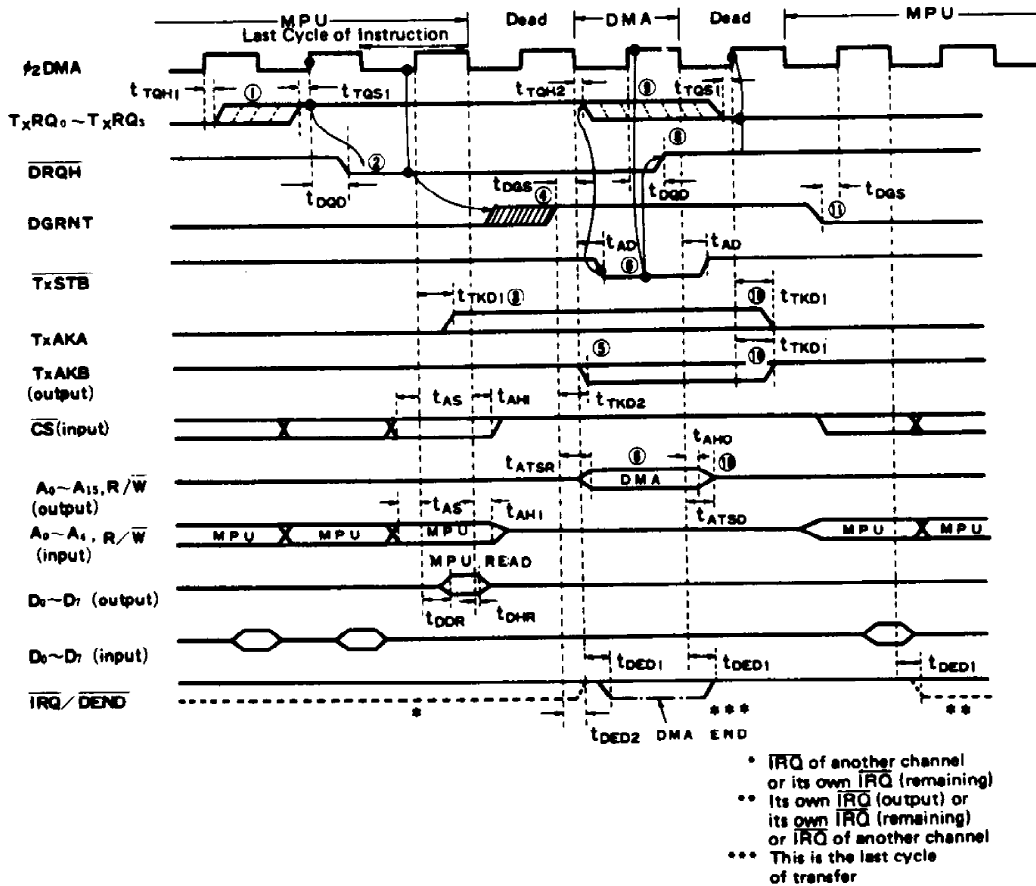
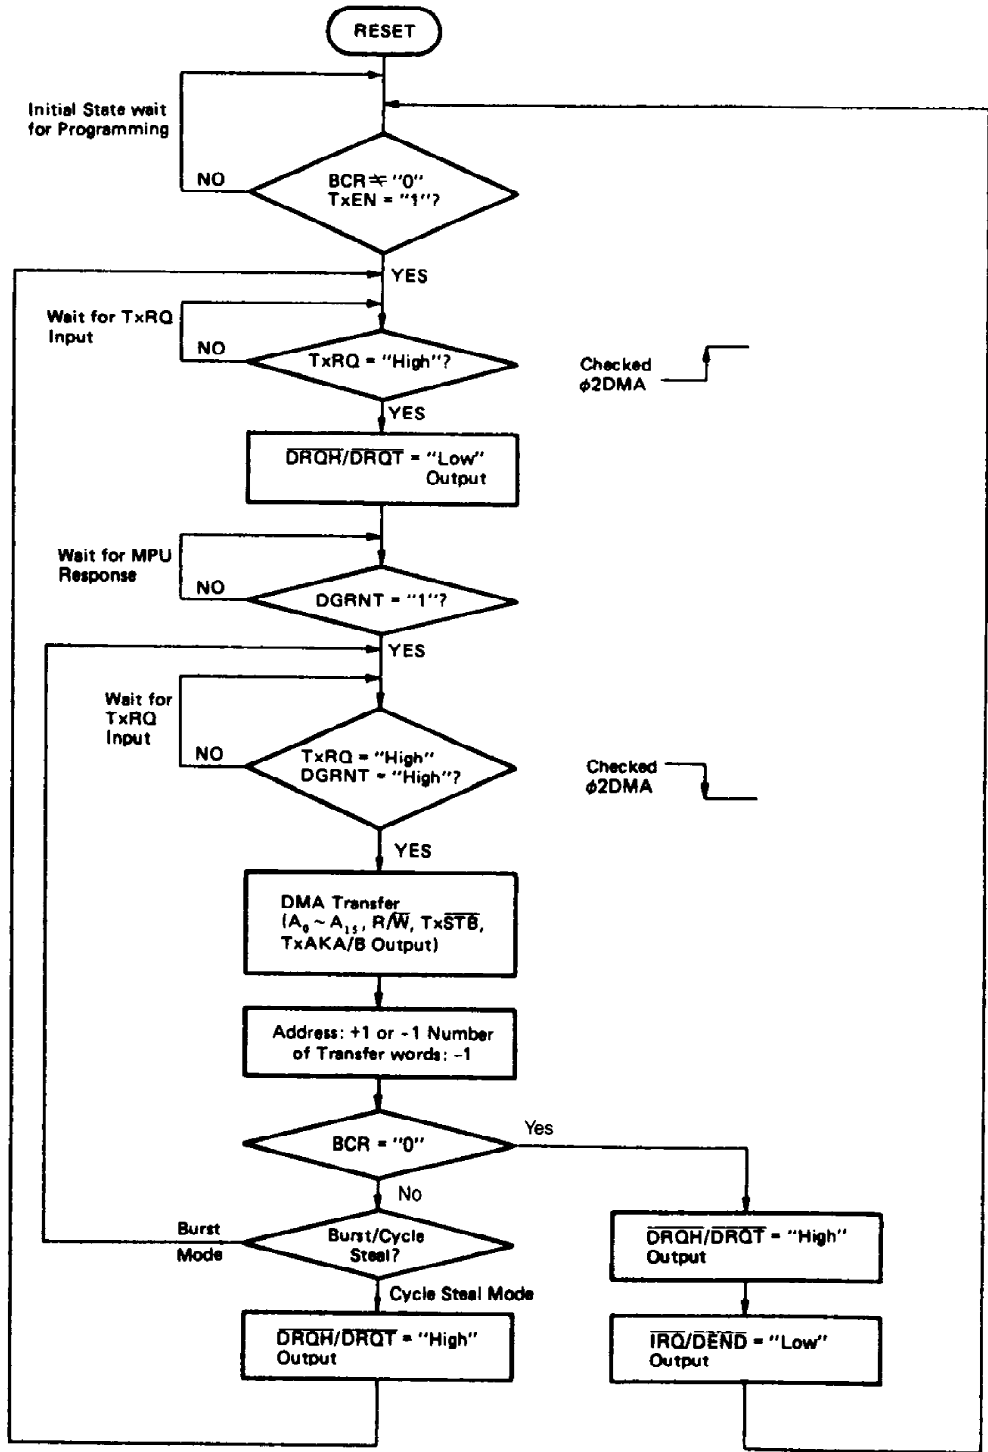
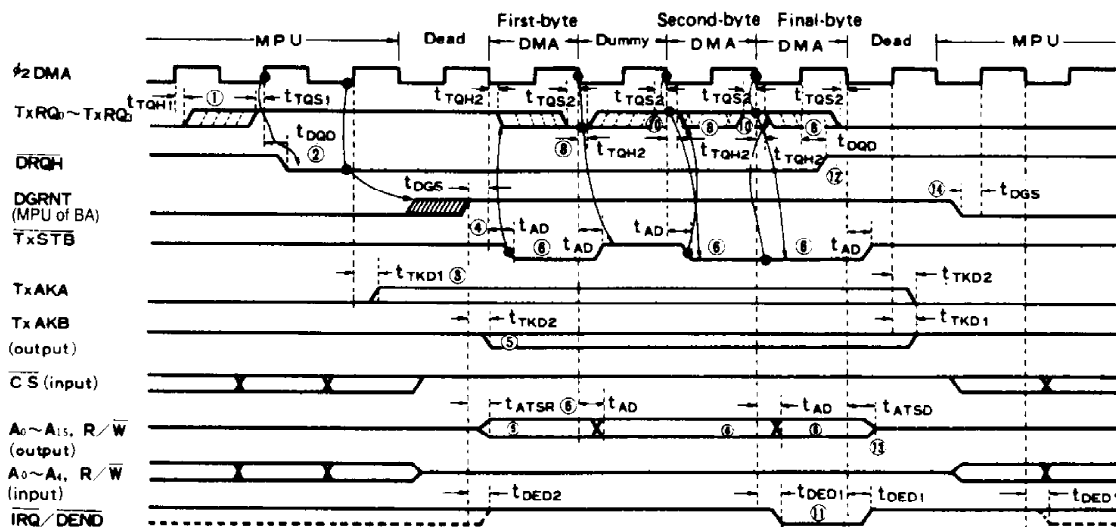
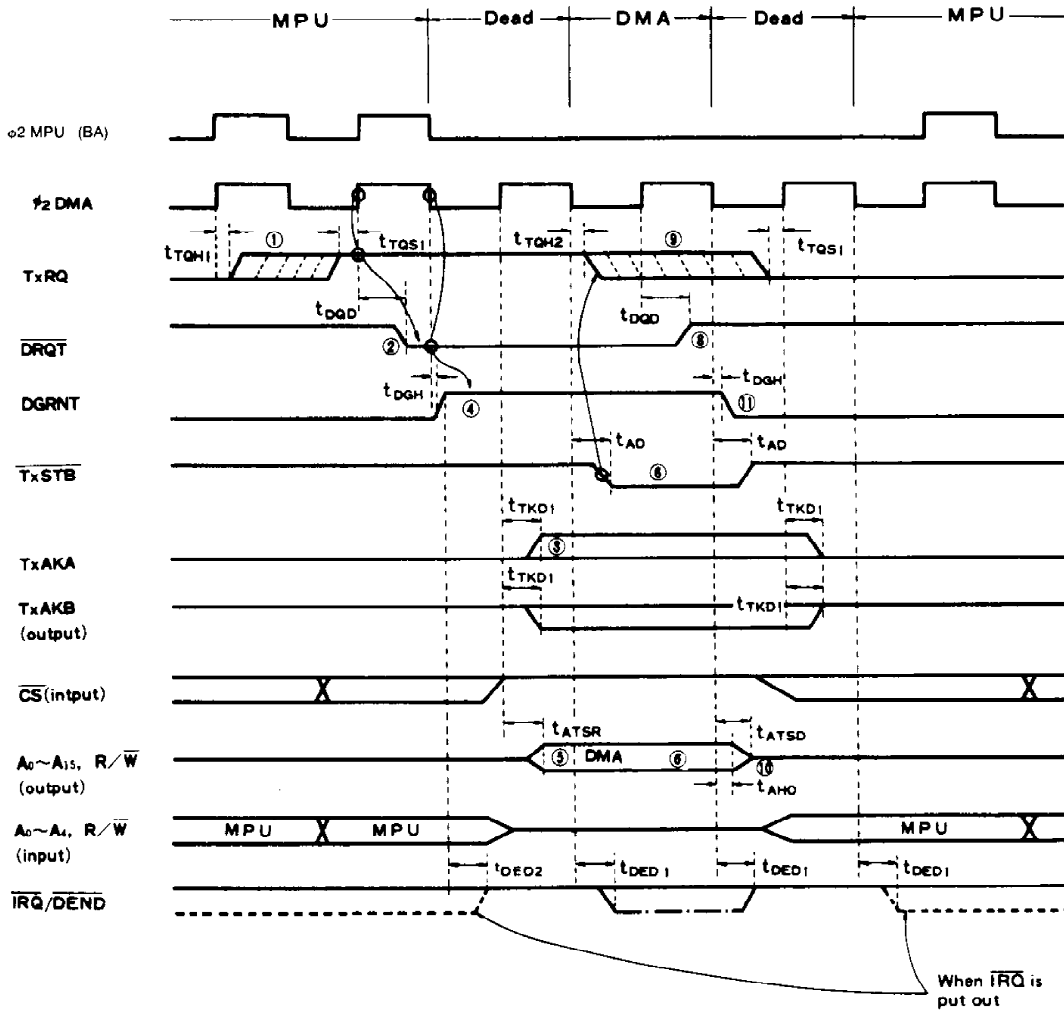

Figure 12 HALT Cycle Steal Mode
Figure 13 Flow Chart of DMAC Operation
Figure 16 HALT Burst Mode
Figure 17 TSC Cycle Steal Mode
Timing chart is shown in Fig. 12 and flow chart is shown in Fig. 13. Procedure of transfer operation is the following. (No. ① ~ ⑭ in Fig. 12 correspond to the following items.)
- ① TxRQ₀~TxRQ₃ input is checked at the rising edge of ϕ_2 DMA. When it is at "High" level, it gets into the following operation.
- ② DRQH="Low" is output and MPU is requested to stop its operation.
- ③ TxAKA is driven (Level output).
- ④ MPU stops its operation and DMAC waits until DGRNT goes to "High" level.
- ⑤ When DGRNT goes to "High" level, DMAC drives TxAKB, A₀~A₁₅ and R/W lines.
- ⑥ TxSTB is given to perform DMA transfer.
- ⑦ Address is incremented or decremented by one and number of transfer words is decremented by one.
- ⑧ When DRQH rises to "High" level, MPU gets into Instruction Cycle again.
- ⑨ TxRQ falls to "Low" level.
- ⑩ A₀~A₁₅ and R/W get into high impedance state again.
[Note] TxRQ₀~TxRQ₃ input in HALT cycle steal is, in principle as shown in Fig. 12, set to "High" every 1-byte transfer on account of I/O request. When TxSTB of the DMAC is driven, it is reset to "Low". Take care not to be against this principle, or the following states may happen.
Its timing chart and flow chart are shown in Fig. 16 and Fig. 13 respectively. Procedure of transfer is the following (No. ① ~ ⑭ in Fig. 16 correspond to the following items).
- ① TxRQ input is checked at the rising edge of ϕ_2 DMA. When it is at "High" level, it gets into the following operation.
- ② \overline{DRQH} ="Low" level is given and MPU is requested to stop its operation.
- ③ TxAKA is driven.
- ④ MPU stops and DMAC waits for DGRNT rising "High" level.
- ⑤ When DGRNT rises "High" level, DMAC drives TxAKB, $A_0 \sim A_{15}$, and R/W lines.
- ⑥ TxSTB is sent out to perform DMA transfer.
- ⑧ TxRQ falls to "Low" level.
- ⑨ When number of transfer words is 0, from ⑪ to ⑭ operations are performed.
- ⑩ When BCR is not "0", TxRQ is checked at the falling edge of ϕ_2 DMA. When TxRQ is at "High" level, DMA transfer is performed through ⑥ ~ ⑧ again. When TxRQ is not at "High" level, DMAC waits for becoming "High" level.
In burst mode, TxRQ should be also, in principle, set to "High" when I/O request is asserted, and reset to "Low" when \overline{TxSTB} goes to "Low". If TxRQ is asserted as level input without being reset, DMA transfer is performed at all cycles of ϕ_2 DMA since TxRQ is always at "High" level at the falling edge of ϕ_2 DMA. Its example is shown in the second-byte and the third-byte transfer in Fig. 16.
Its timing chart and flow chart are shown in Fig. 17 and Fig. 13 respectively.